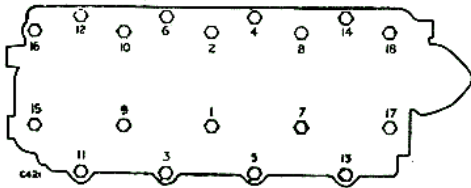

Fig. A-420—Order of tightening cylinder head bolts
7. Tighten down the cylinder head bolts in the order indicated by Fig. A-420. The $\frac{1}{2}$ in. U.N.F. bolts, including those that also secure the rocker brackets must be pulled down to 75 lb/ft. (10,3 Kg/m) whilst the $\frac{5}{16}$ in. U.N.F. bolts securing the rocker brackets only are pulled down to 12-13 lb/ft. (1,6-1,7 Kg/m).